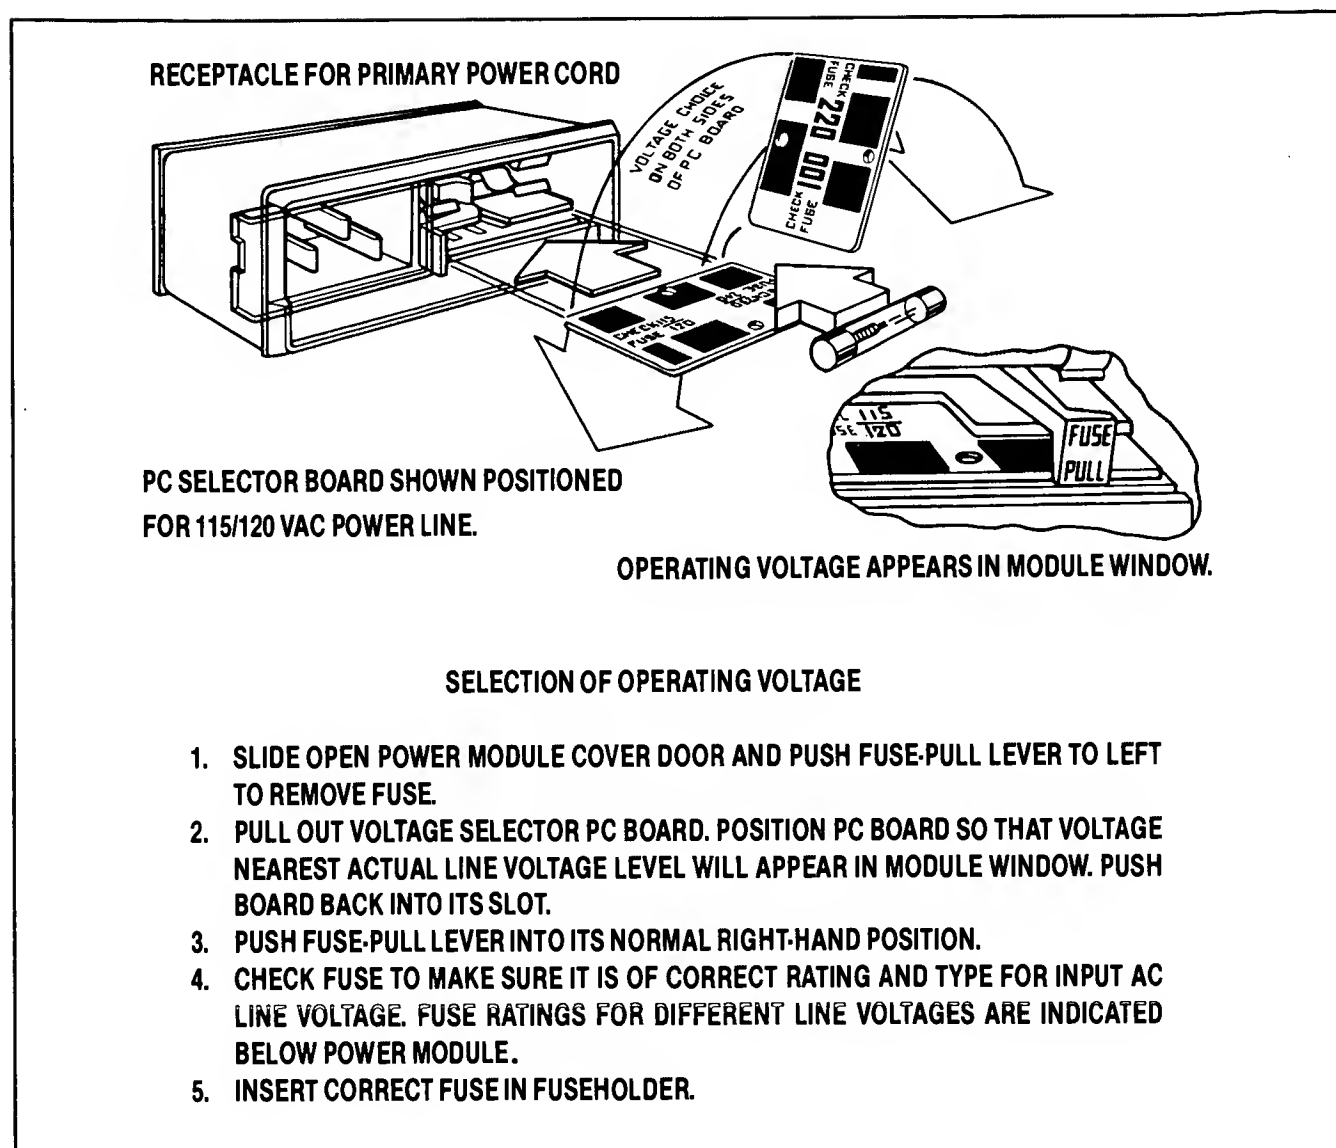

Figure 2-3. Voltage Selection with Power Module PC Board.
2. Position the power line module PC Selector board (on the rear panel of each instrument section) as shown in Figure 2-3. If the line voltage is not within the instrument requirements, you must use an autotransformer between the ac source and the HP 8567A.